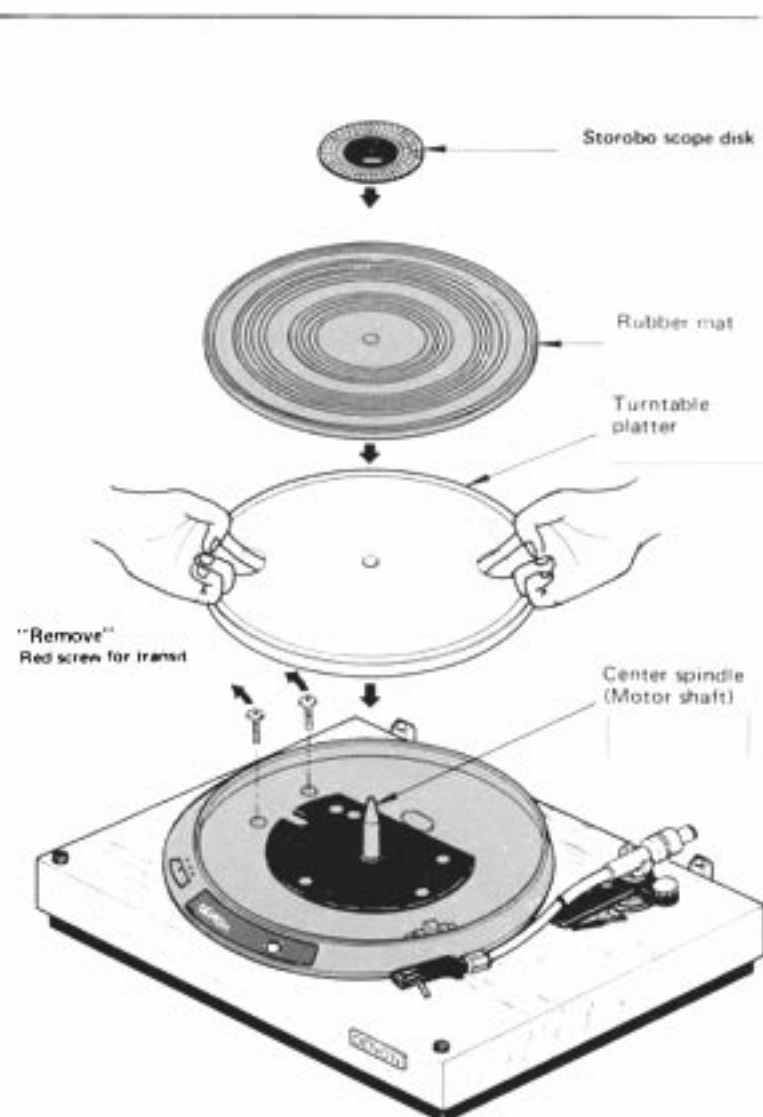

Fig. 1 Mounting the Turntable Platter and Rubber Mat
- 2) To attach the platter to the motor shaft, place your fingers through the two holes in the platter as shown in Fig. 1 and gently lower the platter onto the motor shaft. When removing the platter, hold it in the same manner and lift it straight up off the shaft.